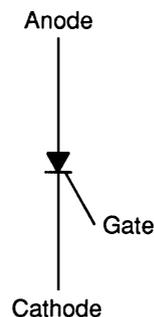

Fig. 13-2 Symbol for SCR.
An SCR conducts current in a forward direction only. The symbol for an SCR is shown in Fig. 13-2. Current flows through an SCR from the cathode (C) to the anode (A). The illustration indicates the SCR also has a gate (G).